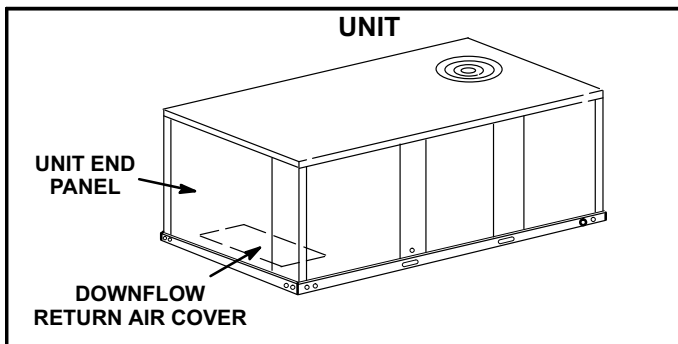

FIGURE 9
- 1- Remove unit end panel. See figure 9.
- 2- Install the downflow return air cover in horizontal airflow applications. Secure with #10 sheet metal screws provided in kit. See figure 9.